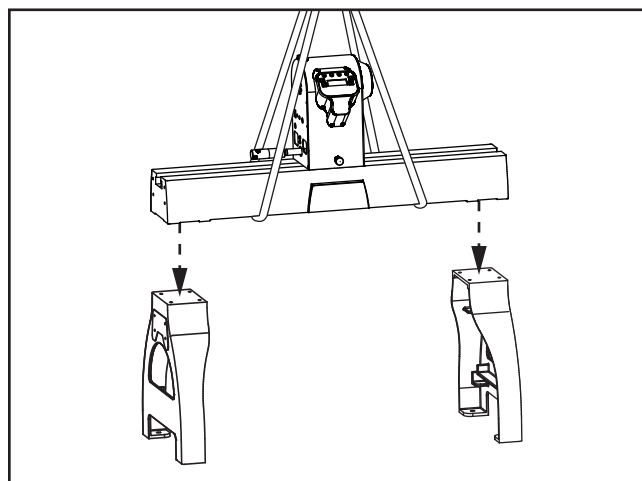

Figure 16. Bed positioned over stand legs.
10. Using lifting equipment, carefully position bed over top of stand legs and align mounting holes (see **Figure 16**).